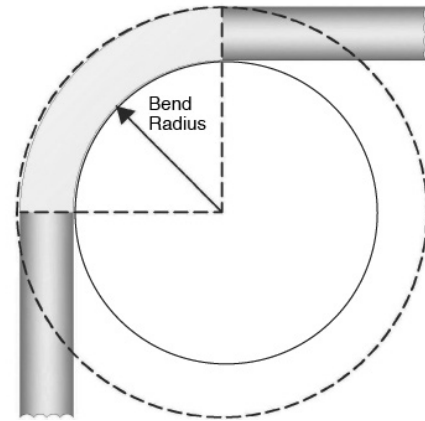

Fig. 4-1
- f) Avoid stressing the tubing or fittings with tight bends, kinks, twists, stretching or repetitive bending. Refer to Table 4-1 below for the recommended minimum bend radius for Gastite®/FlashShield® CSST (Fig. 4-1).